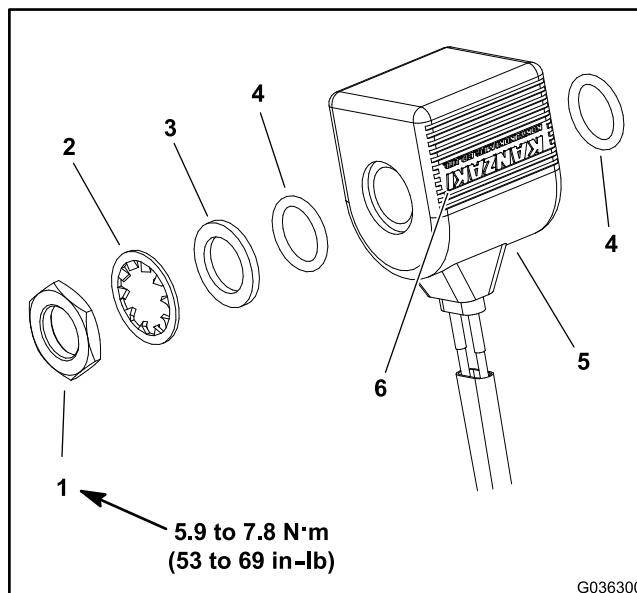

Figure 248
5. Slide the coil assembly from the solenoid valve stem (Figure 248).
1. Slide the new coil assembly, seals, and washers onto the solenoid valve stem. Ensure that you correctly position the seals and washers (Figure 248). Coil should be installed so the “KANZAKI” molded into the coil has the “I” nearest the nut location as coil direction is important for proper solenoid operation.